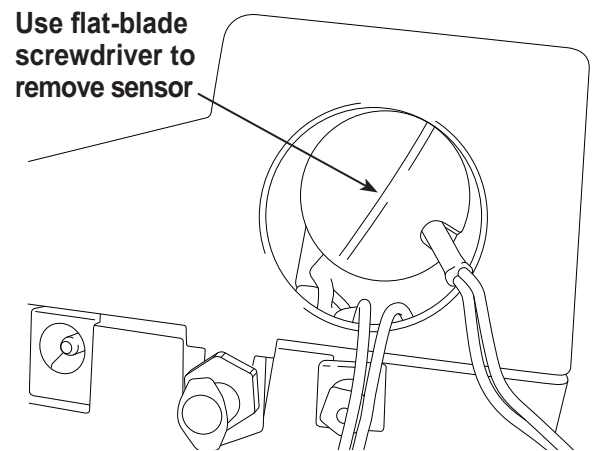

Figure 19
7. Move the cap and harness aside. Hold the lead from the sensor, and use a flat-blade screwdriver to unthread and remove the oxygen sensor. See Figure 19.